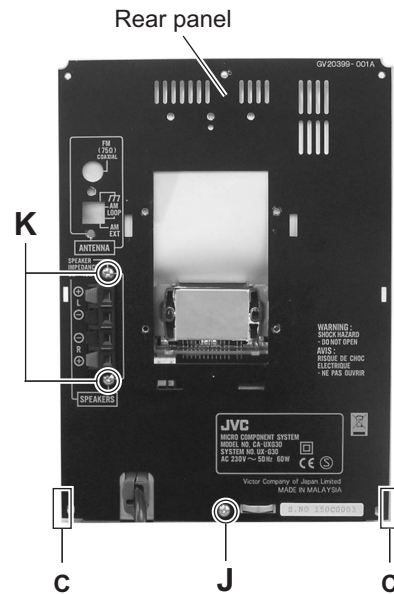

Fig.7
3.1.6 Removing the rear panel (See Fig.7)
- (1) From the rear side of the main body, remove the screw **J** and two screws **K** attaching the rear panel.
- (2) From the both side of the main body, release the joint sections **c** and remove the rear panel.
3.1.7 Removing the main board (See Figs.7 and 8)
- (1) From the rear side of the main body, remove the two screws **K** attaching the micon board to the rear panel. (See Fig.7.)